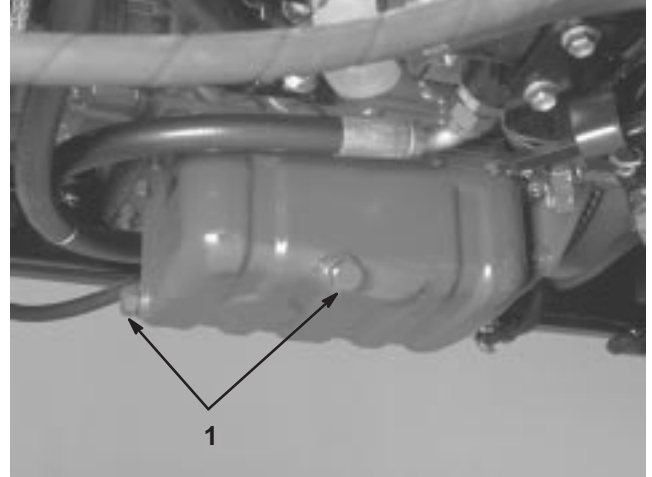

Figure 42
1. Remove either drain plug (Fig. 42) and let oil flow into a drain pan. When the oil stops flowing, install the drain plug.